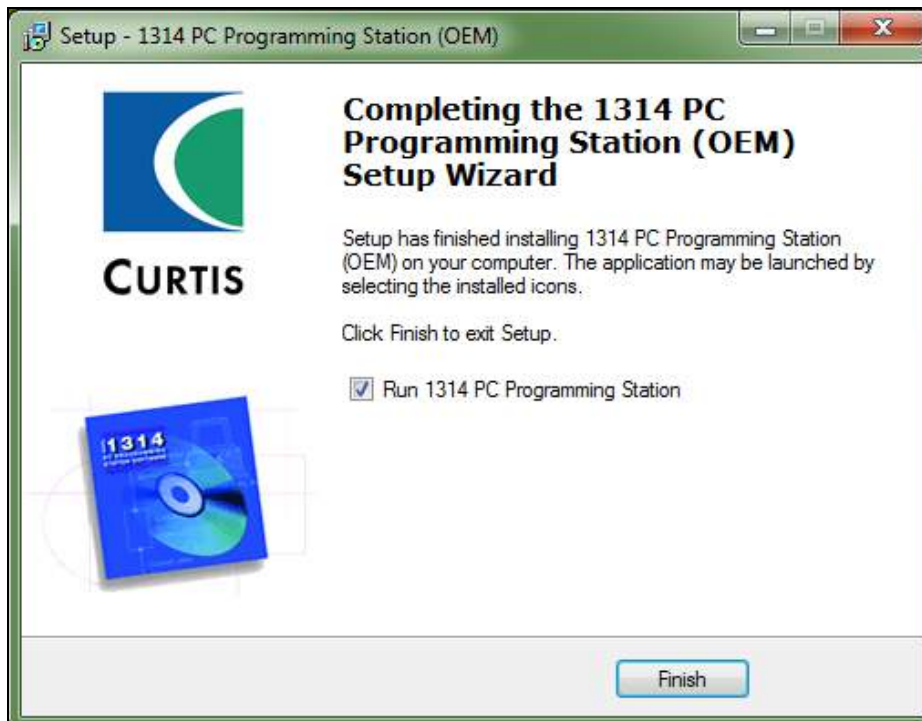

Figure 4-12: Successful Installation
7. If you see the screen in Figure 4-12, you have successfully installed the 1314 Curtis Program.